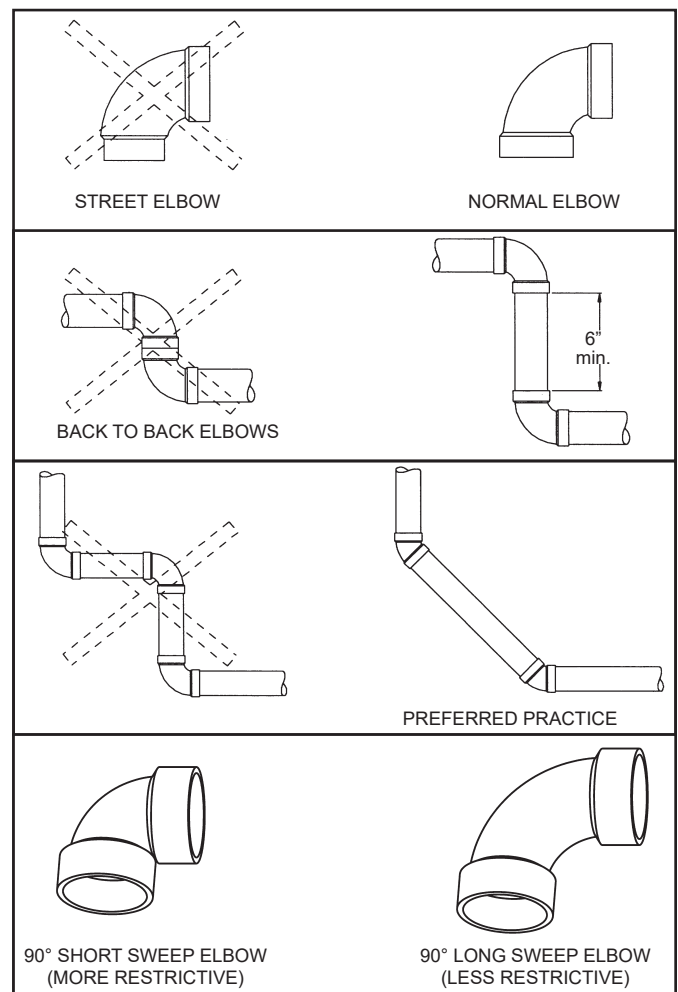

Figure 29.
Note: The information provided in Figure 29 is intended as a guideline for good vent installation practices only and is not intended to restrict venting options beyond those restrictions established by the current edition of the “**National Fuel Gas Code**”, ANSI Z223.1/NFPA 54 or any applicable local and state codes.
3. Avoid using 90° elbows “back to back” and do not use street elbows. Maintain a minimum 6” straight section between elbows. Closely coupled and short radius elbows reduce the venting capacity. Figure 29 shows examples of vent pipe connections.